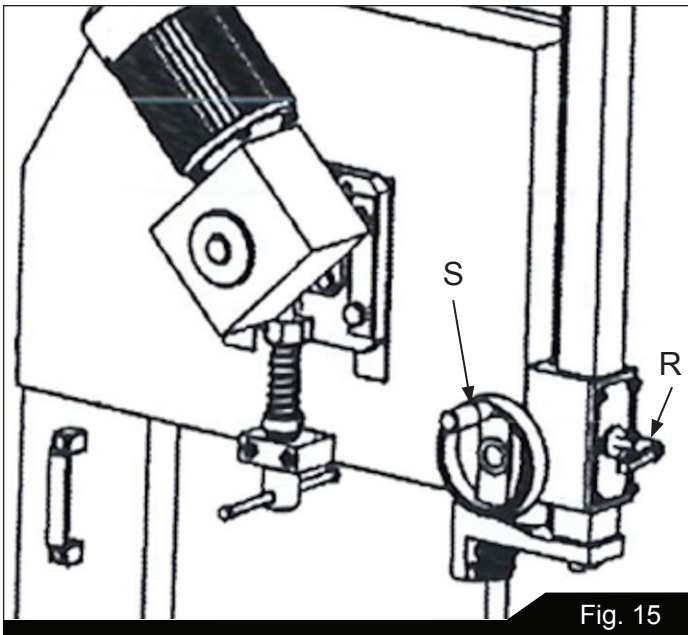

Fig. 15
2. Loosen the locking handle (R, Fig. 15) and rotate the handwheel (S, Fig. 15) to lift or lower the guide to the desired height.
3. Hold the guide in this position and tighten the locking handle (R, Fig. 15).